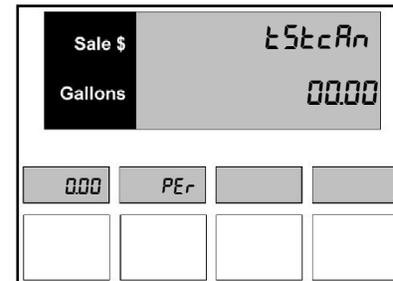

Figure 27.6 – Percentage Units
2. The main display now shows the test can size entry prompt. Press the **+/-** button to enter the test can size. This switches the error entry mode from cubic units to percentage units. The second PPV display will show **PER** to confirm the percentage unit mode as shown in *Figure 27.6*. Enter the test can size (still in gallons or liters) and press the **Enter** button. Once the test can size has been entered the main display for the select dispenser side will show **READY** and the test can size will appear in the first PPV display. The second PPV display will still show **PER** for the percentage unit mode for error entry.